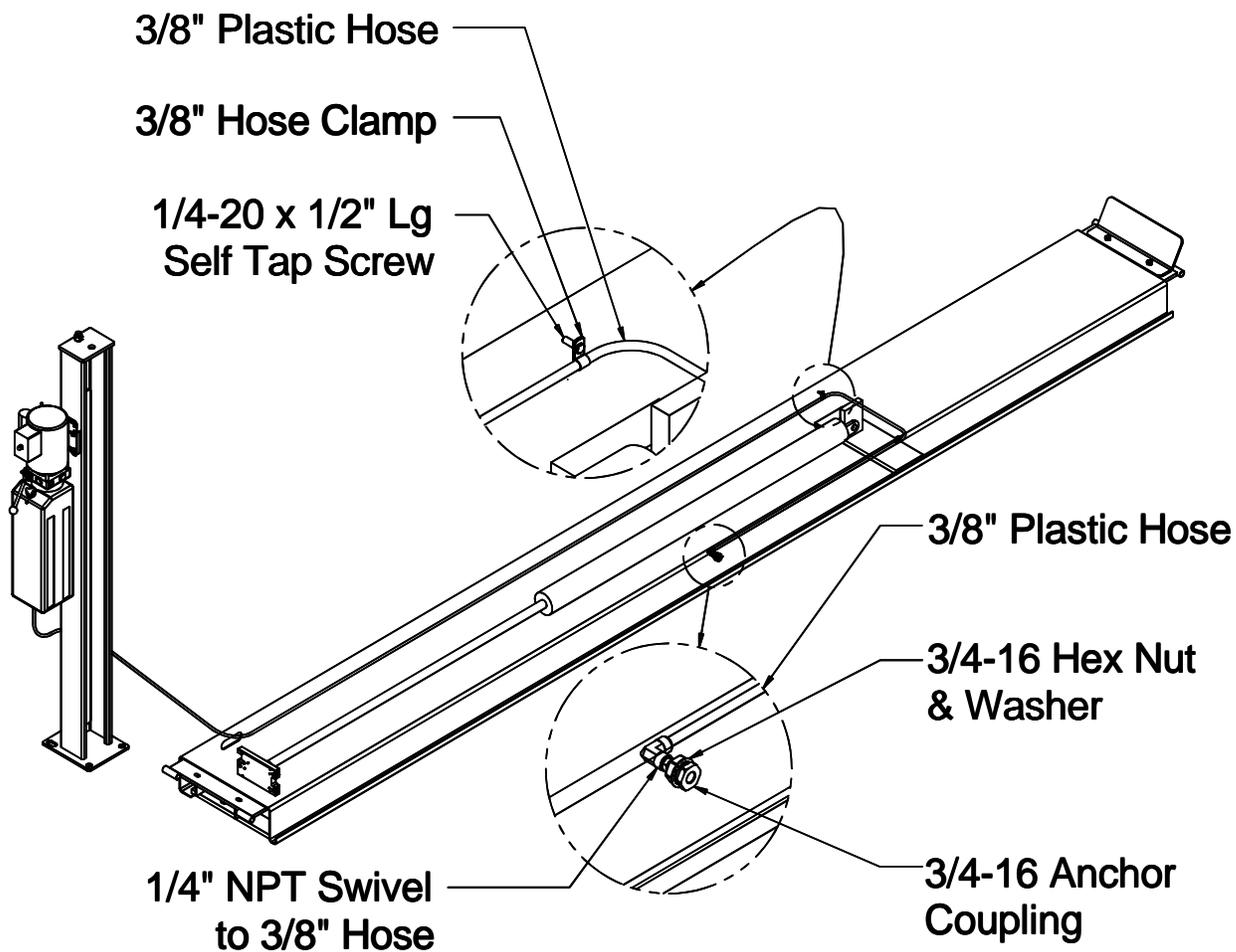

FIG 3
- a. Route the 3/8" hose through opening in runway. Route hose down side of runway to end of hydraulic cylinder. **See FIG 3.**